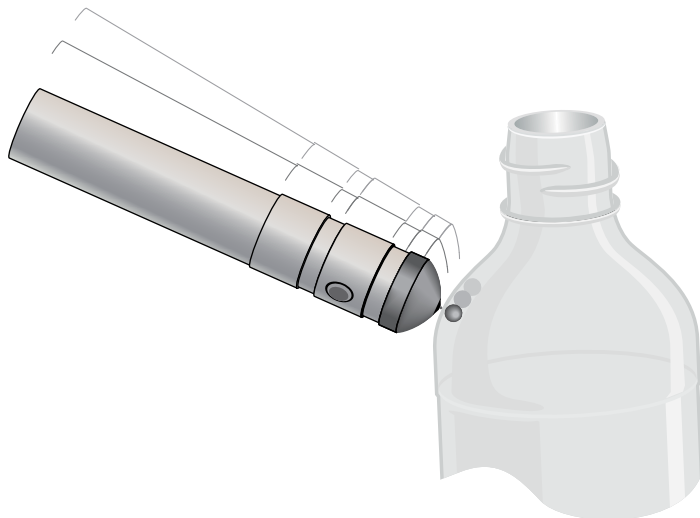

Figure 3. A target ball is placed on one side of a part to be measured. The probe is placed on the opposite of the part, and the ball is attracted to the probe.
**Hall-Effect Gauging Theory:** The other electronic gauging method employs a phenomenon known as the Hall effect. The Hall effect uses a magnetic field applied at right angles to a conductor carrying a current. This combination includes a voltage in another direction. A ferromagnetic target such as a steel ball of known mass is placed in the magnetic field and the induced voltage is changed. As the target is moved away from the magnet, the magnetic field and the subsequent induced voltage are changed in a predictable manner. If these changes in the induced voltage are plotted, a curve can be generated that compares induced voltage to the distance of the target from the probe (see Fig. 3).